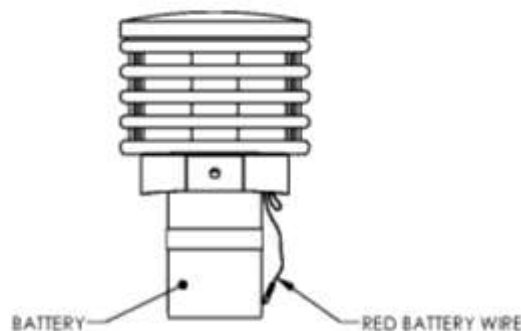

Figure 1 - Battery connection
3. Connect red battery wire to red (positive) battery terminal (see Figure 1).